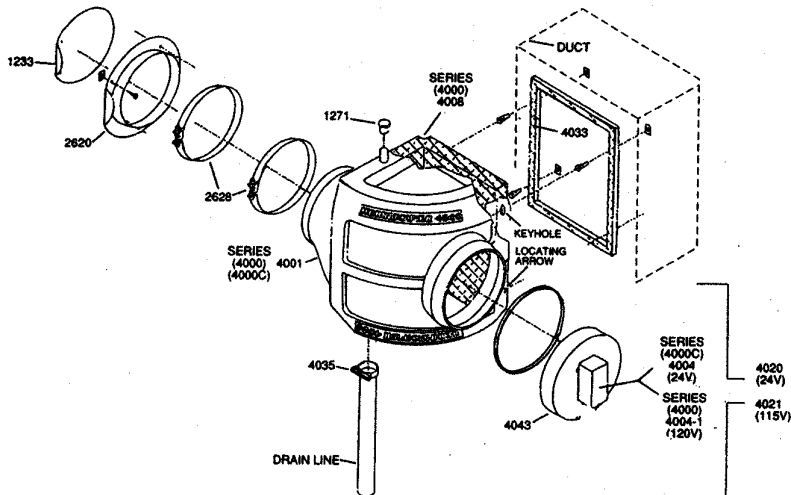

FIGURE 1 - INSTALLATION/HARDWARE
1. For best results, the unit should be located on the return air side of the system. However, if space does not permit, it can also be located on the supply (warm air) side of the system. Capacity will be reduced when mounted on the supply side. The bypass connection can be made to the left or right side of the unit. Regardless of where the unit is mounted (supply/return air) or left/right connection, the end cap must always be positioned so that the water connection is at the BOTTOM of the humidifier. See FIGURE 1.
2. To mount on **sheet metal duct** begin by drilling 5/32" diameter holes and cutting opening as marked on template. Remove template, install the four (4) sheet metal screws with standoffs using spring nuts provided, then place the foam seal around the opening on the plenum. See sketch below. Remove end cap from the notched end of the humidifier. Check that evaporator pad is in the proper position, then "hang" the humidifier on the mounting screws. Unit may be hung with outlet flange pointing left or right as required. Note the directional arrows located on the housing. Remove the plastic protective cap from nozzle and then snap end cap onto the humidifier with the pigtail water connection at the bottom of the cap.